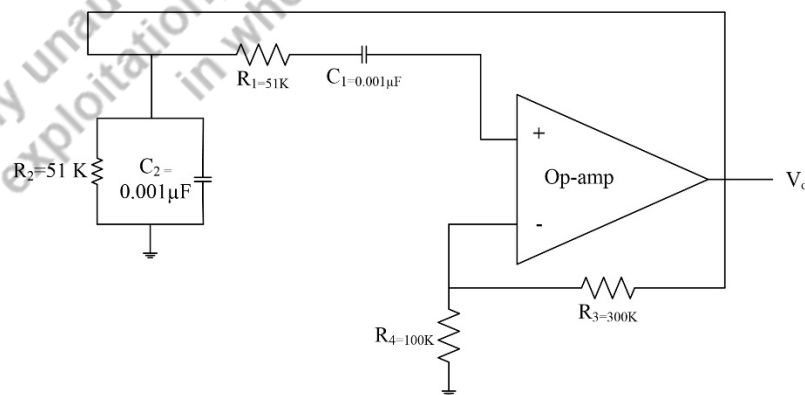

Fig. 3.22: Wien Bridge oscillator circuit
**Ex. 4:** Calculate the resonant frequency of the Wien bridge oscillator of Fig.3.22.